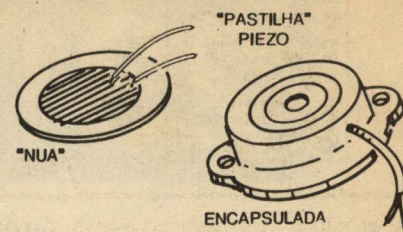

Fig.2
- FIG. 2 - A CÁPSULA PIEZO MINI